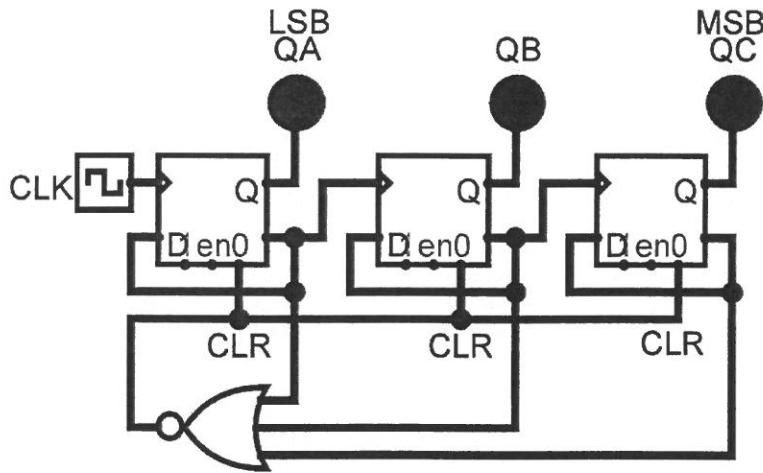

Figure 2(a)
- (a) Table 2(a) and Table 2(b) show a portion of a dual positive edge-triggered D flip-flops (DM7474) and a triple 3-input NOR gate (DM74LS27) datasheet respectively. Figure 2(a) shows the logic circuit diagram of an asynchronous counter which uses positive edge-triggered D flip-flops with labelling of  $Q_A Q_B Q_C$  where  $Q_C$  is MSB and  $Q_A$  is LSB. Assume the environment is at  $T_A = 25^\circ C$  with  $V_{CC} = 5V$  and the load capacitance is  $15pF$ .
- (i) Analyse its operation to determine whether the logic circuit of Figure 2(a) is working as an up counter or down counter. Also, state the modulus and function of this counter. (4 marks)
- (iv) Determine the output timing diagram of Figure 2(a) with proper labelling for this counter. (4 marks)